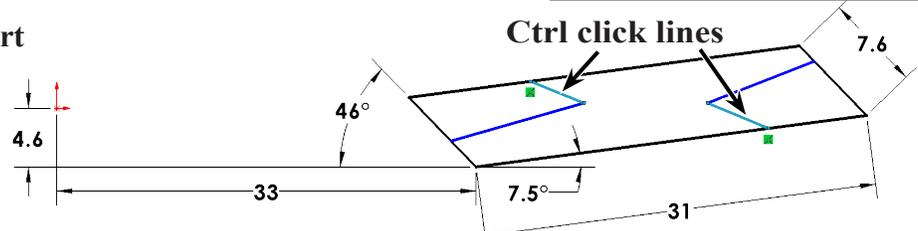

Fig. 76
Step 11. **Ctrl click both short lines** select both. Release Ctrl key and click **Make Parallel** on the context toolbar, **Fig. 76.**